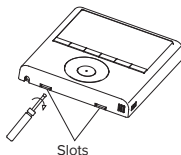

Fig. 3-4
- Remove the upper part of the wire controller (Fig. 3-4)